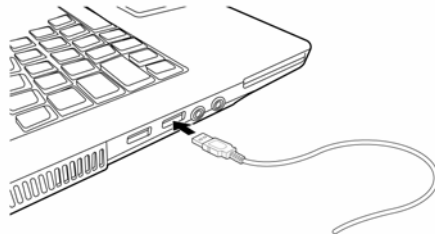

Fig. 2-5
5. Plug the thin end into the computer (Fig.2-5).